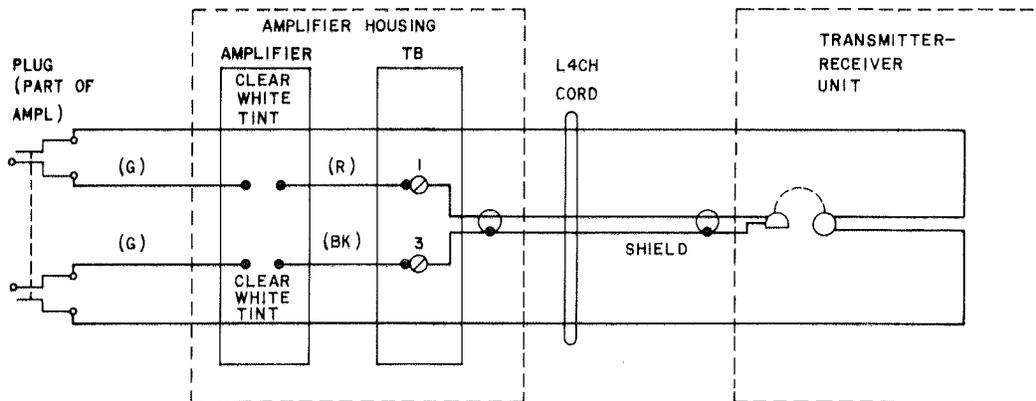

Fig. 9—280A Amplifier Connecting Diagram
3.07 280A Amplifier: To replace the amplifier, remove the housing screws using the 3-inch C screwdriver and remove the cover. Using the KS-2348 and KS-6854 screwdrivers, remove the terminal screws and remove the L4CH cord from the amplifier. Substitute the new amplifier, connect the cord as shown in Fig. 9 and assemble the parts in the reverse order of removal. Dress the leads as originally positioned.
3.08 Profiling Assembly Associated with 280A Amplifier: Remove the housing screws using the 3-inch C screwdriver and remove the cover. Remove the lead and cord terminals connected to the profiling assembly using the KS-2348 screwdriver and remove the profiling assembly. Place the new profiling assembly in the shell half and reassemble the parts in reverse order of removal, connecting the cord terminals as shown in Fig. 9. Dress the leads as originally positioned.
using the 3-inch C screwdriver and remove the cover. Note the dress of the leads. Using the KS-2348 and the KS-6854 screwdriver remove the screws securing the four printed wiring board leads. Remove the terminal board assembly and the printed wiring board. Substitute the new printed wiring board, connect the leads as shown in Fig. 9 and assemble the parts in the reverse order of removal. Dress the leads as originally positioned.
3.15 *LACH Cord:* Disconnect the cord at the 280A amplifier as covered in 3.07. At the headset end, remove the housing screws using the KS-6854 screwdriver and remove the cap assembly. Remove the old cord and substitute the terminal board end of the new cord in the headset. Connect the new cord to the amplifier as shown in Fig. 9. Reassemble the parts in the reverse order of removal. Dress the leads as originally positioned.